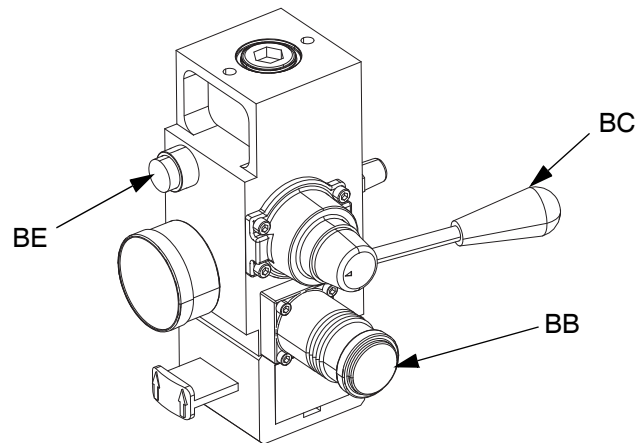
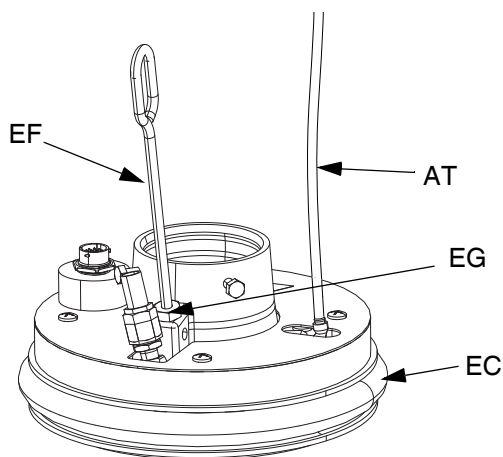

**FIG. 35. Power Disconnect**
FIG. 38
If the Platen (AD) does not come out of the pail easily when the Pump is being raised, the air assist tube (AT) or check valve (416) may be plugged. A plugged valve prevents air from reaching the underside of the plate to assist in raising it from the pail. See FIG. 38 on page 42.
1. Turn off power to the Electric Driver (AB):
- a. If using an ambient Single Ram Supply System, turn the red Disconnect Switch (AZ) OFF. See FIG. 35.
- b. If using a heated Single Ram Supply System, turn the black Power Junction Box Switch (AK) OFF. See FIG. 35.
- c. If using an ambient Tandem Ram Supply System, turn the red Power Junction Box Switch (AK) OFF on the Ram Supply Unit that requires a drum change only. See FIG. 35.
- d. If using a heated Tandem Ram Supply System, turn the black Disconnect Switch (AZ) OFF on the Ram Supply Unit that requires a drum change only. See FIG. 35.